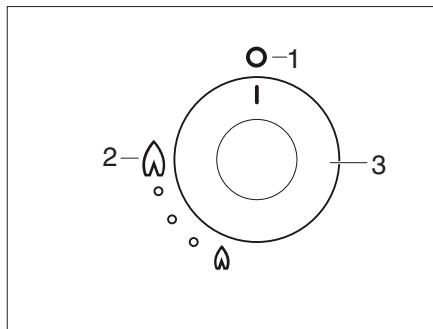

Fig. 117 Control knobs of the burners
- ▶ Push and turn the control knob (Fig. 117,3).
- ▶ Turn the control knob anti-clockwise to the full rate position (Fig. 117,2).
- If the burner accidentally extinguishes turn the control knob (Fig. 117,3) to the 0 position (Fig. 117,1) and wait at least 1 minute before re-igniting the burner.
- If the burner has not lit within 15 seconds turn the control knob back to the 0 position (Fig. 117,1) and release it. Wait at least 1 minute and repeat the steps above to turn on the appliance.
- ▶ Turn the control knob clockwise to the 0 position (Fig. 117,1) to turn off the burner.
Always make sure the control knob is in the 0 position (Fig. 117,1) when you have finished using the gas burners.